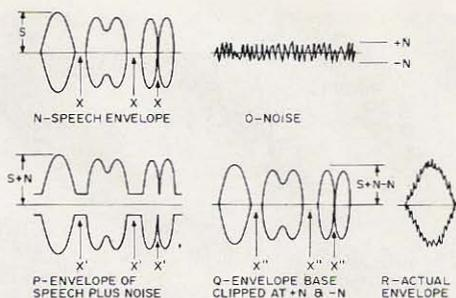

Fig. 4. Improvement of speech intelligibility by reduction of masking noise.
Further oscilloscopic studies of actual speech signals, plus some excursions into physical linguistics, greatly assisted by published researches of the Bell Telephone Laboratories, finally gave a very satisfactory answer, which is outlined in Fig. 4.
A speech envelope is shown diagrammatically in Fig. 4 (N), with the phonemal pauses indicated by X. Noise is shown at (O),
and signal plus noise, as received, at (P). Note here that the phonemal pauses, indicated by X, are plugged up, so that diction is degraded, as is intelligibility. This situation, which you can duplicate by connecting an oscilloscope across your receiver output while listening to a phone signal on "one of those nights," almost exactly parallels the "masking noise" situation so thoroughly studied by Harvey Fletcher.³ If, by base clipping at the average level of the noise, we clear up the phonemal pauses, signal intelligibility is greatly improved, and the signal envelope now looks like (Q) in Fig. 4. The effect is quite similar to that produced by increasing the percentage of modulation. A still greater improvement is indirectly brought about, in the case of "white" noise, because a low frequency will tend to "override" a sound of higher frequency. Although noise above the clipping level is still superposed on the signal envelope, as in (R) of Fig. 4, the human ear will tend to disregard the higher frequency, and respond to the lower, through a wide range of signal and noise intensities. This also has been studied and reported in detail by Fletcher (op. cit., p. 153). This same line of reasoning points out the need for keeping hum at a minimum, and explains why a measured low level of hum has a high perceived level of annoyance.